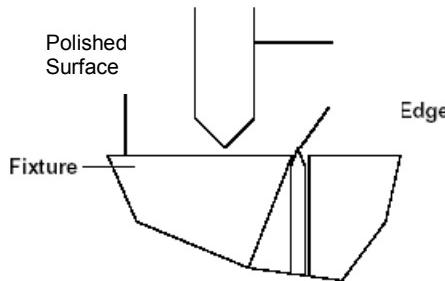

Figure 12.9 Positioning to Start Scan
2. Move the stage using the X-knob to position the stylus about 50-60 μm from the edge of the blade, as shown in Figure 12.9. Note: it might be difficult to accurately determine the position of the edge by sight. If you have difficulty, try taking a longer scan to locate the edge, then adjust the start position accordingly and return to the shorter scan length.